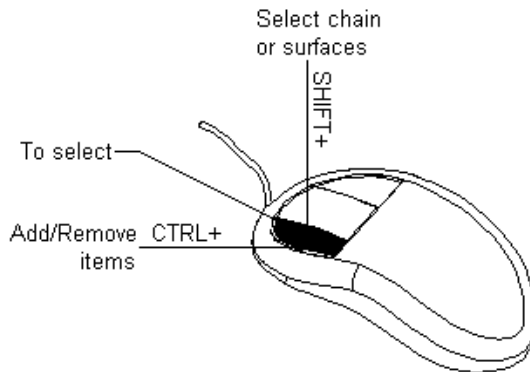

Figure 1-25 Functions of the left mouse button
1. Figure 1-25 shows the functions of the left mouse button. The left mouse button is used to make a selection. Using CTRL+left mouse button, you can add or remove items from the selection set.